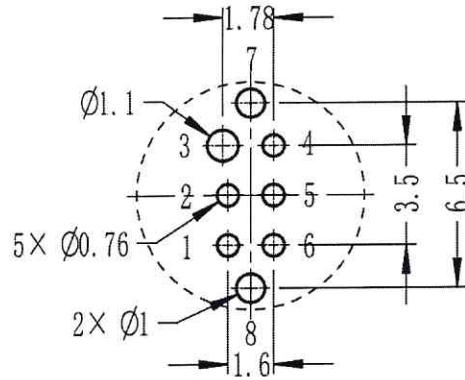

Figure 7 Recommended motherboard PCB layout design dimensions (top view)
- a) The PCB Layout design package diagram of the optical module product corresponding to the user's motherboard is shown in Figure 7.